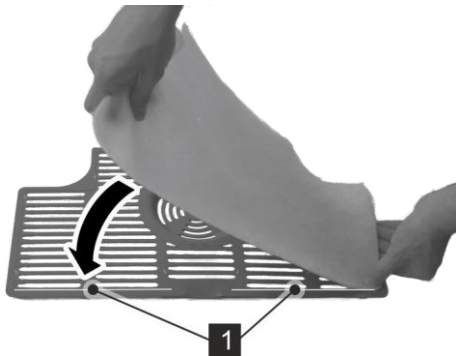

Fig. 30: Sticking down the cleaning filter
3. → Stick the new cleaning filter onto the intake grille with the sticky side along the marking (Fig. 30/1).